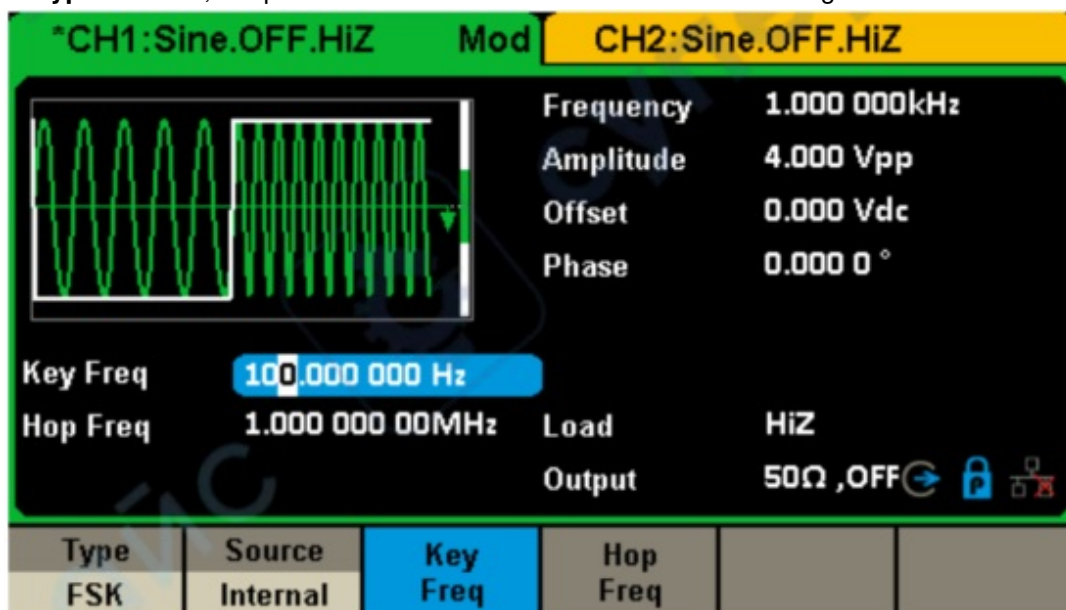

Figure 2-28 Setting Interface of FSK Modulation
The FSK is Frequency Shift Keying, the output frequency of which switches between two preset frequencies (carrier frequency and the hop frequency or sometimes known as mark frequency (1) and space frequency (0)). Press **Mod** → **Type** → **FSK**, the parameters of FSK modulation are shown in Figure 2-28.